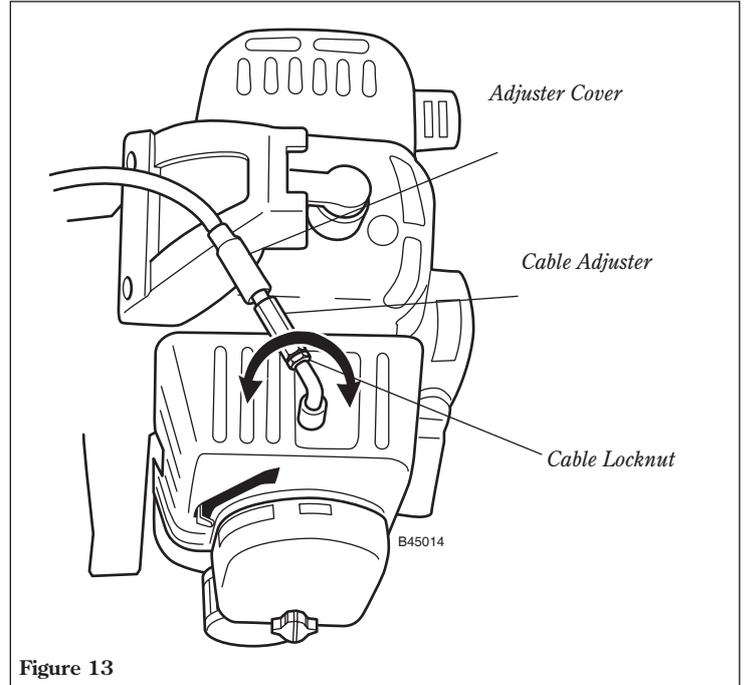

Figure 13
3. If necessary, the “Free Play” clearance can be adjusted as follows. See Figure 13.